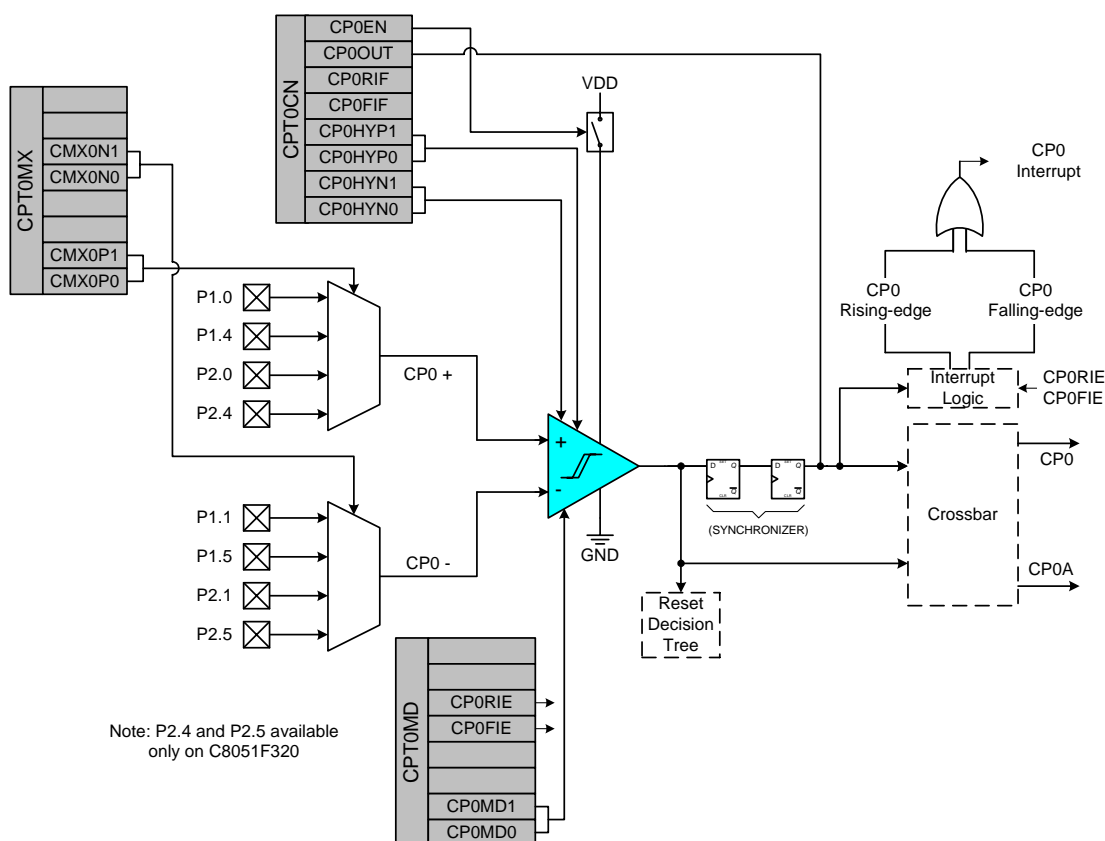
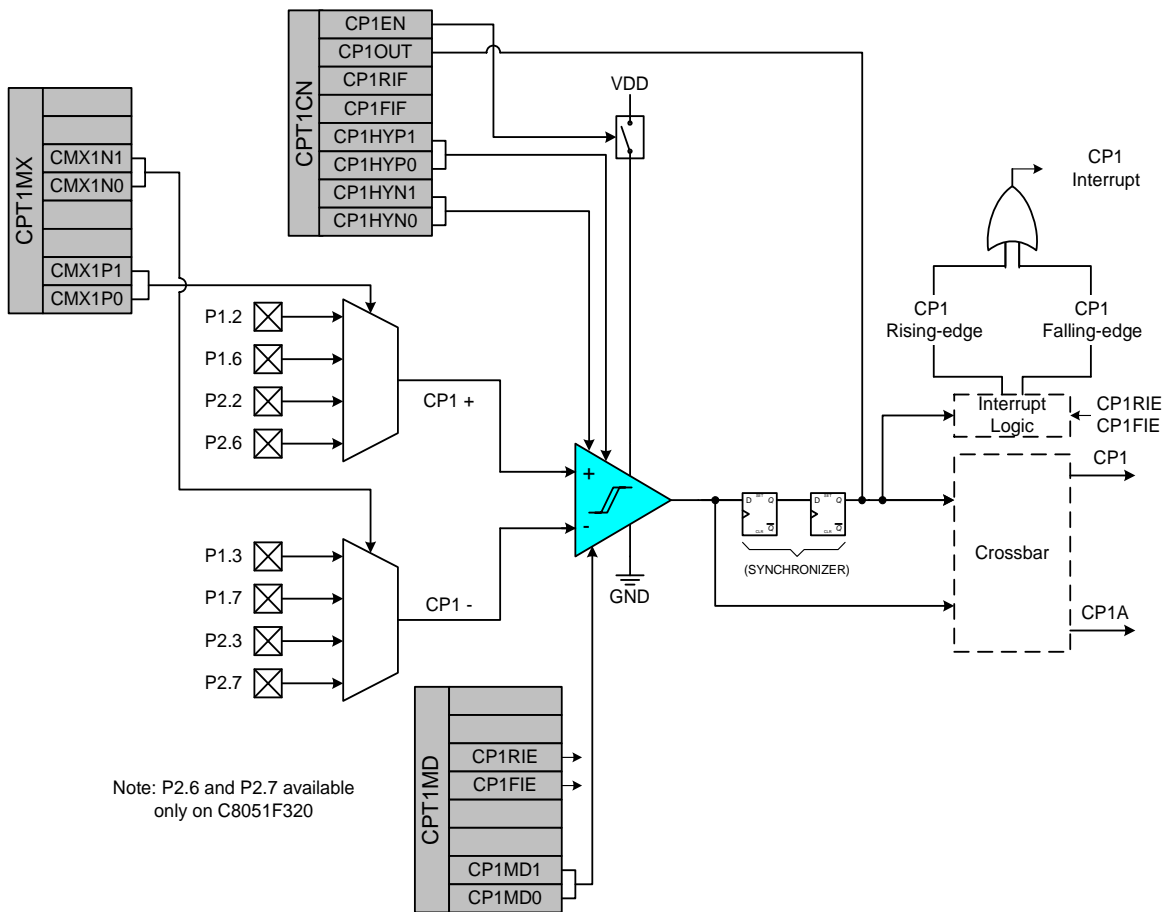
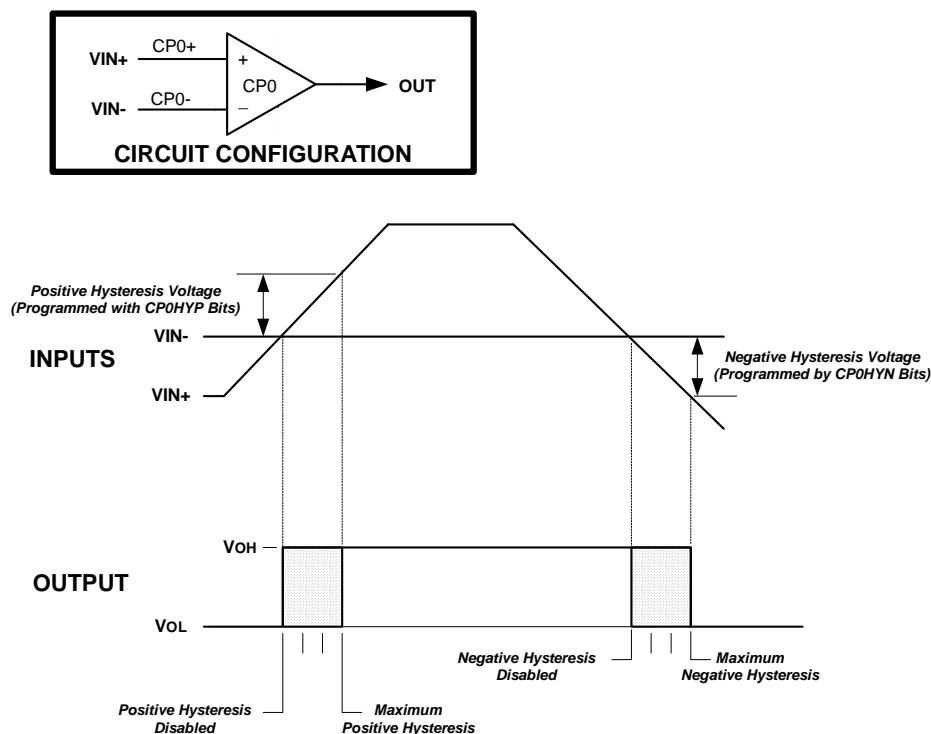

Figure 7.1. Comparator0 Functional Block Diagram
Figure 7.2. Comparator1 Functional Block Diagram
Figure 7.3. Comparator Hysteresis Plot
C8051F320/1 devices include two on-chip programmable voltage Comparators: Comparator0 is shown in Figure 7.1; Comparator1 is shown in Figure 7.2. The two Comparators operate identically with the following exceptions: (1) Their input selections differ as shown in Figure 7.1 and Figure 7.2; (2) Comparator0 can be used as a reset source.
The Comparator0 inputs are selected in the CPT0MX register (Figure 7.2). The CMX0P1–CMX0P0 bits select the Comparator0 positive input; the CMX0N1–CMX0N0 bits select the Comparator0 negative input. The Comparator1 inputs are selected in the CPT1MX register (Figure 7.5). The CMX1P1–CMX1P0 bits select the Comparator1 positive input; the CMX1N1–CMX1N0 bits select the Comparator1 negative input.
Comparator response time may be configured in software via the CPTnMD registers (see Figure 7.3 and Figure 7.6). Selecting a longer response time reduces the Comparator supply current. See Table 7.1 for complete timing and supply current specifications.
Comparator hysteresis is programmed using Bits3–0 in the Comparator Control Register CPTnCN (shown in Figure 7.1 and Figure 7.4). The amount of negative hysteresis voltage is determined by the settings of the CPnHYN bits. As shown in Figure 7.3, settings of 20, 10 or 5 mV of negative hysteresis can be programmed, or negative hysteresis can be disabled. In a similar way, the amount of positive hysteresis is determined by the setting the CPnHYP bits.